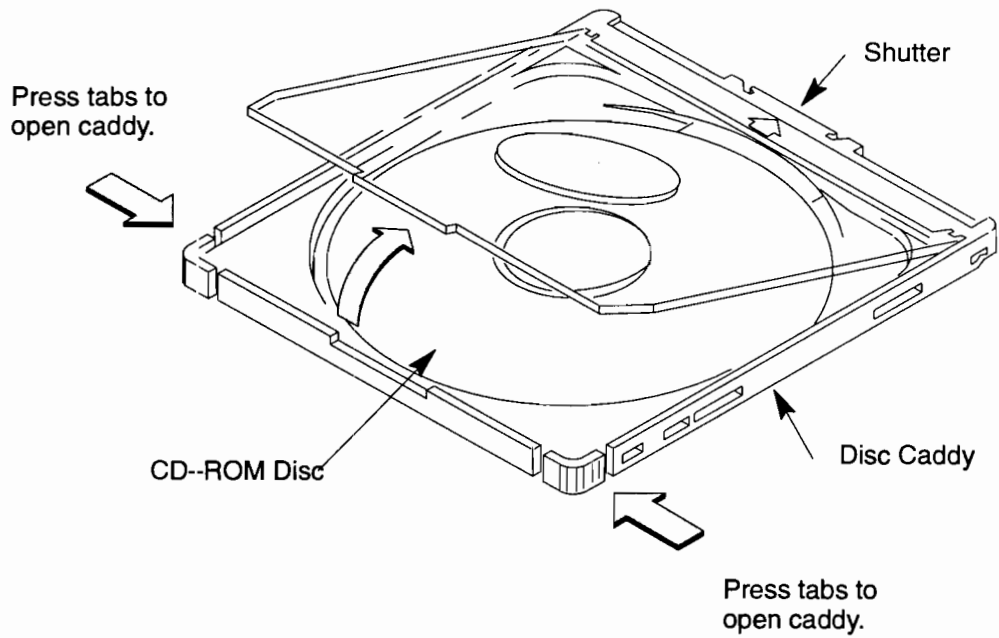

Figure 6-1. CD-ROM Disc and Disc Caddy
A CD-ROM disc mounts into a rigid plastic caddy (part number C2293-80001), as shown in Figure 6-1. The drive accesses data on the CD-ROM disc through a shutter in the bottom of the caddy. When you insert the disc caddy into the drive, the shutter opens automatically to expose the disc surface. When you eject the disc caddy from the drive, the shutter closes to protect the disc surface.
This section describes how to open the disc caddy and insert and remove a CD-ROM disc. Refer to Figure 6-1 as you perform the following steps to insert a CD-ROM disc into a caddy:
1. Open the disc caddy by pressing inward on the two cover-locking tabs and lifting the cover, as shown in Figure 6-1.